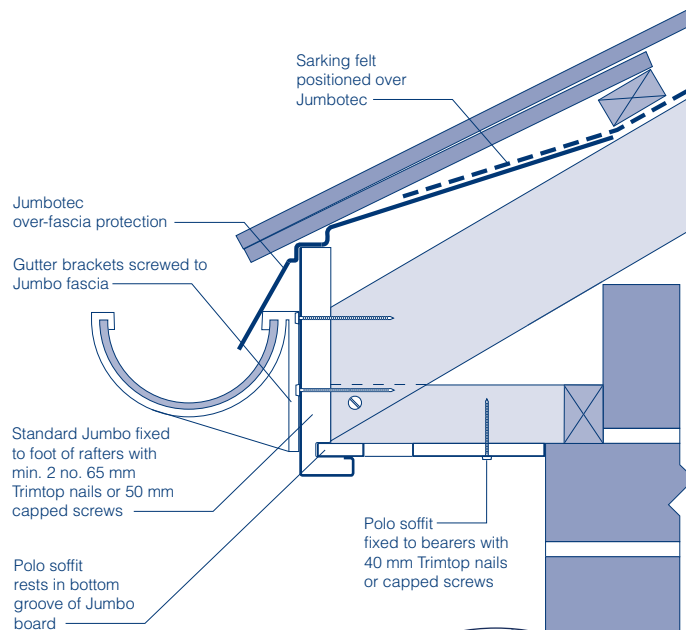

Fig. 6 Square Jumbo used with Jumbotec over-fascia protection
- Where eaves protection is not to be fitted the roof felt must be in good condition and dressed over the fascia down into the gutter. (Fig 6)
- Where eaves protection is to be fitted the rear flange of the unit must dress under the existing felt edge. (Fig 6)
- While tilt fillets are illustrated (Fig 6), the necessity for these will depend on factors other than that of supporting the tiles or slates, such as angle of pitch and position of tile battens.